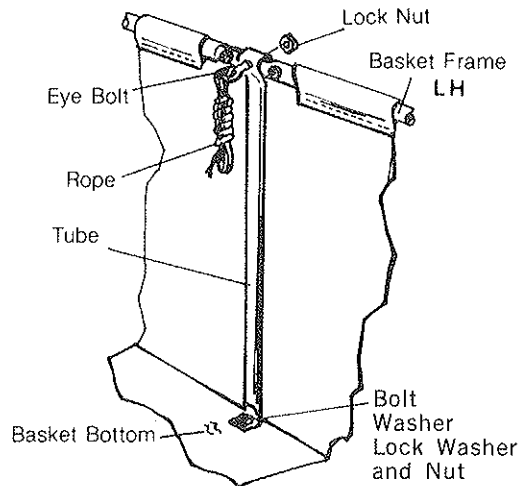

Figure 7
- Fig. 7 & 13 - Fasten the Tube to the bottom of the Basket with a  $\frac{1}{4}$ -20 x  $\frac{5}{8}$  Hex Hd. Bolt, Flat Washer, Lock Washer and Nut. Now pull the Basket Frame up until it fits in the curve at the top of the Tube, then insert the Eye Bolt thru the Tube and the Basket Frame and fasten with the Lock Nut. Now tie the rope in the Eye Bolt.